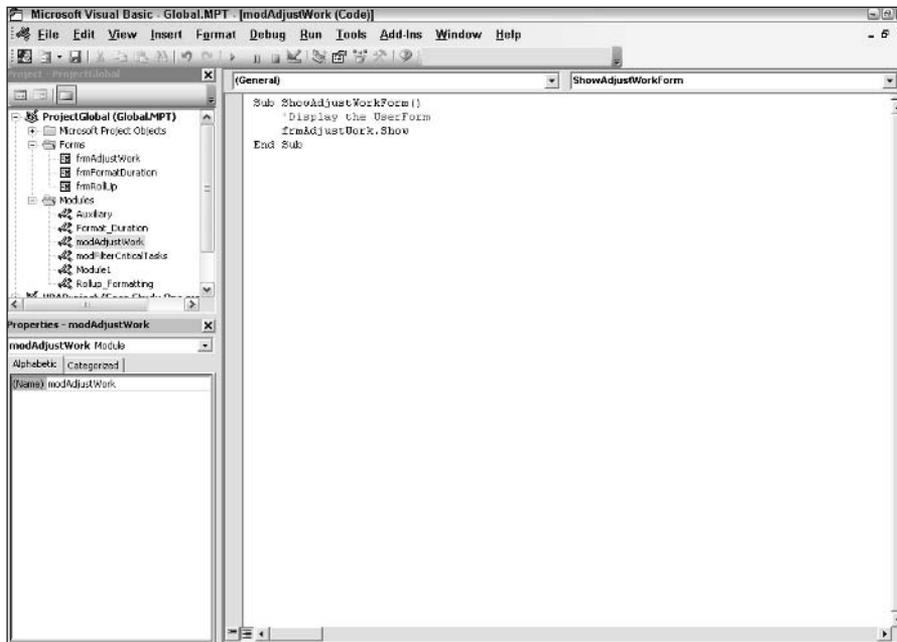

Figure 25-23: The `ShowAdjustWorkForm` sub procedure displays the UserForm.
3. In the Code window, add the following sub procedure (see Figure 25-23):